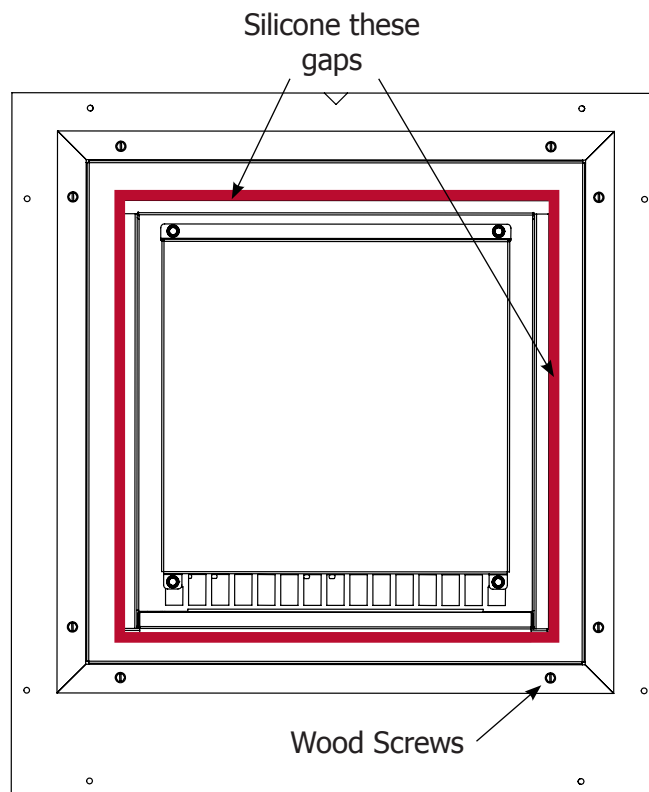

Figure 13: Silicone locations
d) Tighten the two (2) screws on the strain relief to clamp down and secure the cable within the power vent terminal.
10. Install the power vent terminal into the exterior thimble and fasten in place using eight (8) standard wood screws. See Figure 13 for reference.
11. Seal the perimeter of the power vent terminal between the power vent terminal and the finishing face with silicone or caulking. Refer to Figure 13 for exact locations.